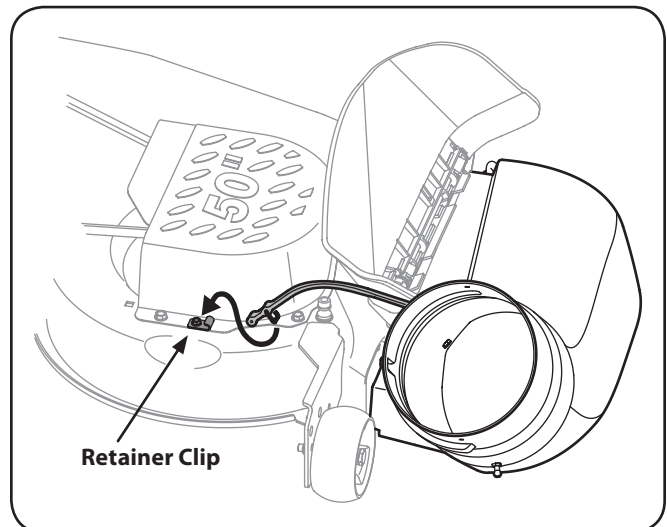

Figure 4-21
6. Attach the retainer strap on the discharge chute to the retainer clip on the deck. Refer to Figure 4-21.
IMPORTANT: If the retainer clip is not present on the mowing deck, on some units, one has been included with hardware pack 689-00329. Attach the retainer hook (96606) with a self-tapping screw factory installed in the deck in the position noted in Figure 4-21. Remove the screw in the deck and reinstall with the retainer hook.